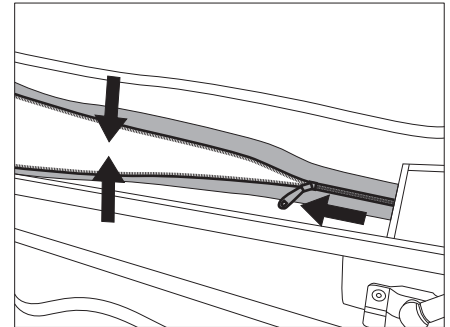

Fig. 10 Relieving the zip
- ▷ When closing the zip, pull down the pop-up roof so that the zip is not under tension (Fig. 10).